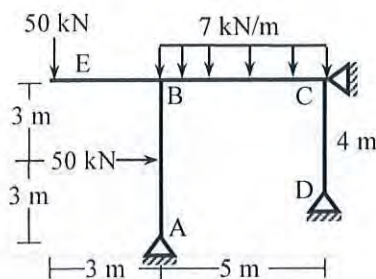

Fig.8
8. Analyze the frame in **Fig.8** using Moment Distribution Method to draw the bending moment diagram [$EI = \text{Constant}$]. [15]